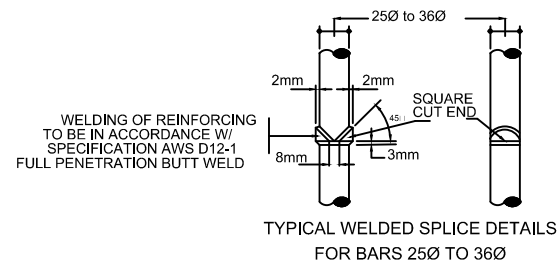

FIGURE 1
- A FULL WELDED SPLICES SHALL HAVE BARS BUTTED AND WELDED TO DEVELOP IN TENSION AT LEAST 125 PERCENT OF THE SPECIFIED YIELD STRENGTH f_y OF THE BAR. (SEE FIGURE 1)